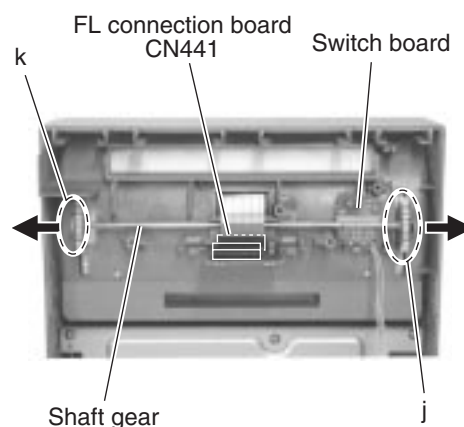

Fig.44
■ Removing the switch board (See Fig.44,45)
- Prior to performing the following procedure, remove the bracket (2) / drive motor assembly.